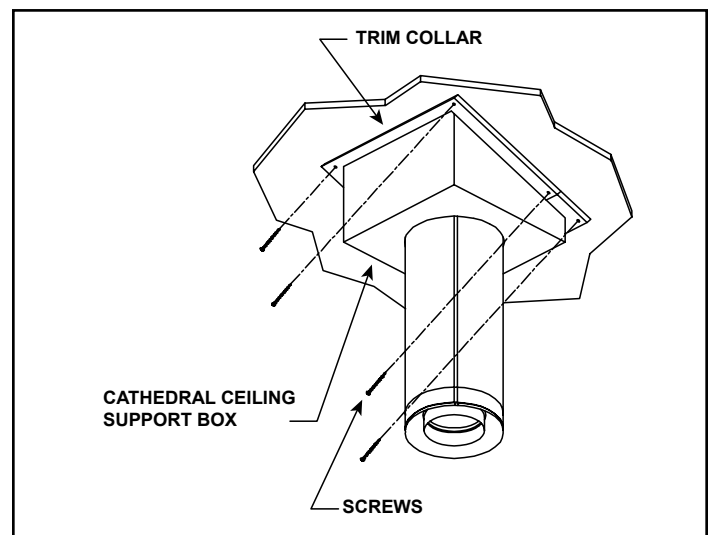

Figure 5.22
8. Install the black trim collar around the outside of the cathedral ceiling support box (Figure 5.22). The two pieces of the trim collar slide over one another to allow for easy adjustment around the support box. Using the six screws provided, secure the four corners and the overlapping sections of the trim collar to the ceiling. You may want to predrill the holes for the overlapped sections for ease of installation.